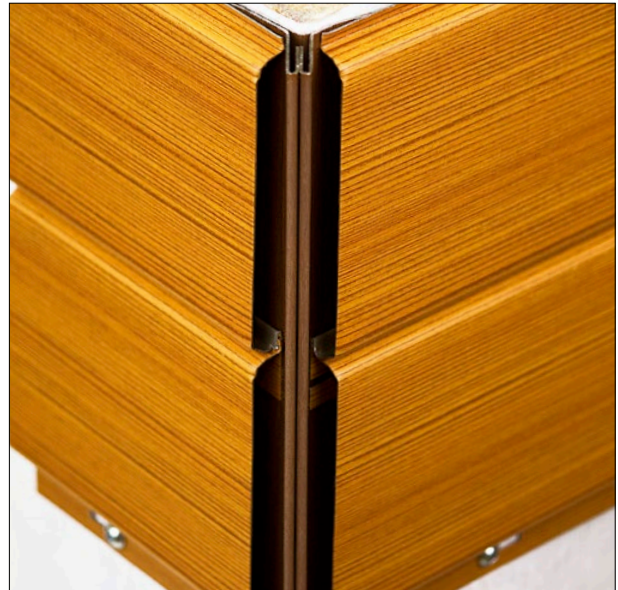

Fig.73
Step 4: Install the standard panels and fasten (Fig.73).